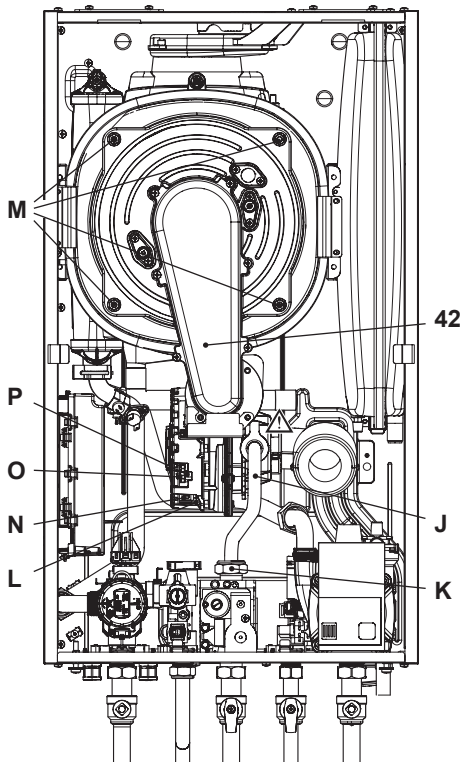

Fig. 10.9
Removing the fan burner unit 42 in Fig. 10.9.
- Insert a flat screwdriver in the connector recess **L** and lever towards the bottom, disconnect the connector at the same time **N** by pulling towards the front **N** (Fig. 10.9).
- Disconnect the fan connector **O** by pressing the plastic hook **P** positioned at the bottom part of the connector (Fig. 10.9).
- Unscrew screws **M** and remove the fan burner unit 42 (Fig. 10.9)